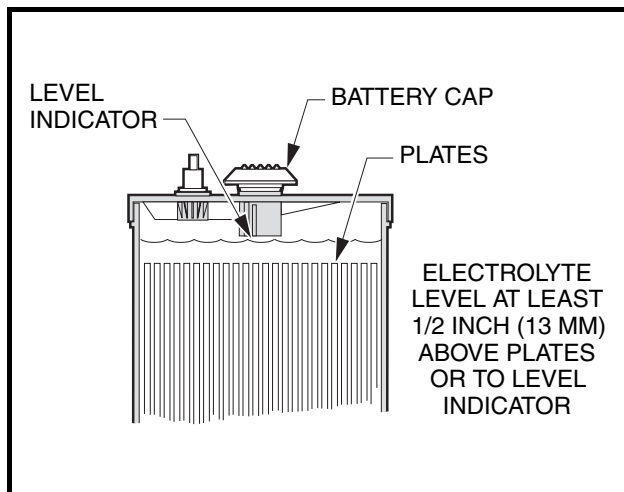

Figure 14 Electric Battery Electrolyte Level
2. The electrolyte level in the batteries should be checked weekly (**Figure 14**). Add water only after charging unless the electrolyte level is below the top of the plates. In this case, add just enough water to cover the plates, charge and then check the level again. Never charge batteries if plates are exposed above electrolyte level. For best battery life, add only distilled water. **See following CAUTION and NOTE.**